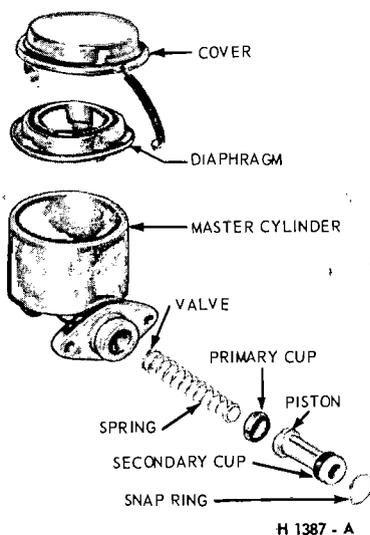

FIG. 33—Master Cylinder Used With Disc Brakes—Disassembled
1. Press in against the piston while removing the snap ring retainer, and then remove the piston assembly, cup, spring, residual check valve and seat. (Fig. 33).
1. Clamp the master cylinder housing in a vise. Dip the hydraulic cylinder parts in brake fluid and assemble the check valve seal, residual check valve, and piston return spring in the bore of the cylinder in the order shown in Fig. 33.